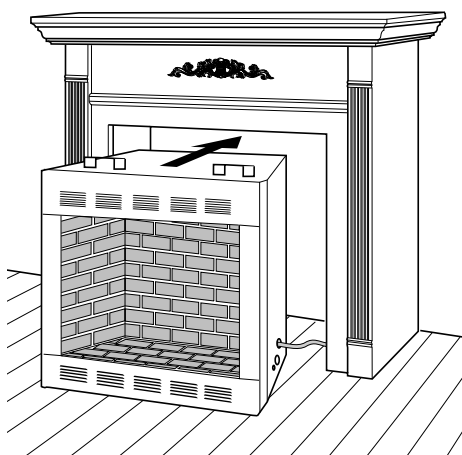

Figure 12 - Inserting Firebox Into Cabinet Mantel
8. Carefully insert firebox into cabinet mantel. Be careful not to scratch firebox, cabinet mantel, flooring, etc. when installing (see Figure 12).